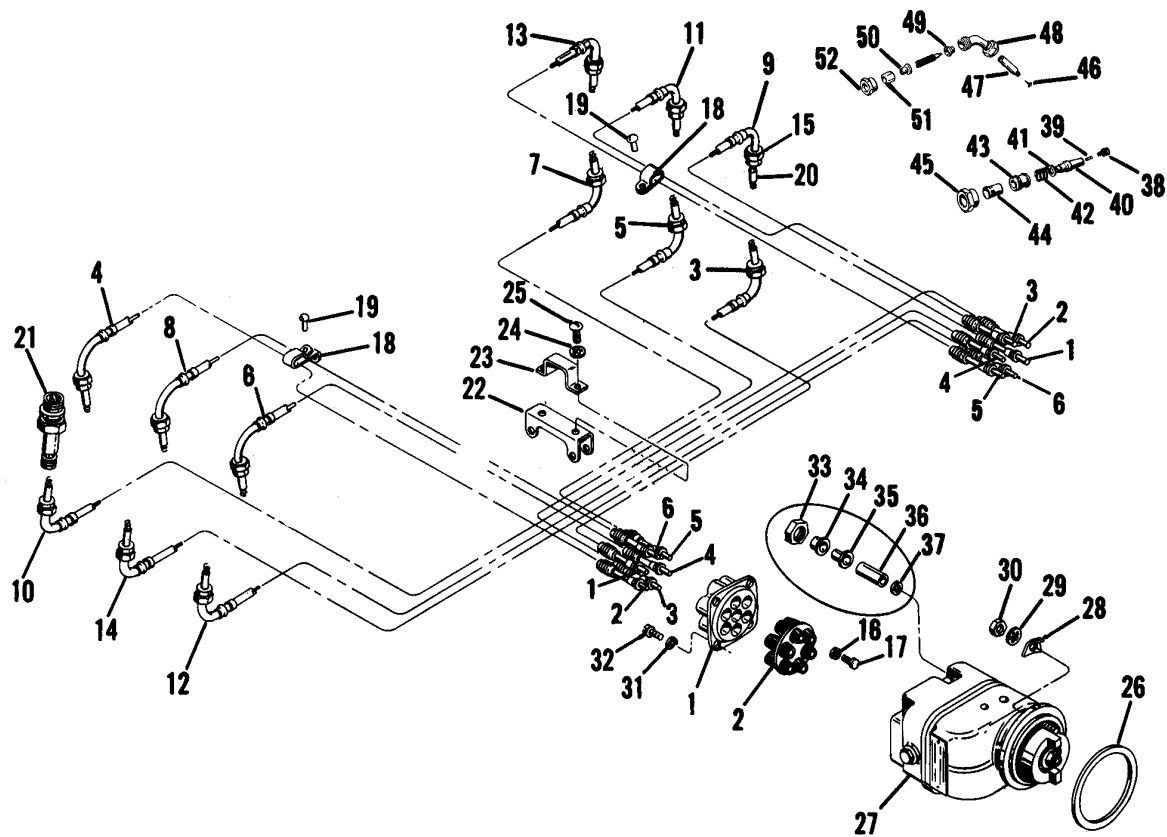

FIGURE 5-11. EXPLODED VIEW OF IGNITION SYSTEM.
5-38. IGNITION CABLES. Normally, all ignition cable assemblies or harness assemblies should be replaced at each overhaul. If the high tension outlet plates are in good condition, new cable assemblies and grommets may be installed on them and the cable ends secured to the grommet of each harness with a brass washer and a cable piercing screw, installed as in the original assembly. If only the cable assemblies and grommets are to be replaced, leave the cable clamping bracket on the original cables of each harness, and detach all cables from the high tension outlet plate by removing the cable piercing screws from their ends in the plate grommet. When the coupling nuts are unscrewed the cables may be withdrawn and the grommet removed from the plate. Observe the "1" mark on the exterior side of each outlet plate adjacent to the No.1 cable outlet hole. Refer to Figure 5-11 and observe that the numerals appearing at magneto ends of the high tension cables correspond to the consecutive order of outlet plate cable holes, while the
relative positions of spark plug elbows indicate the installed positions of the cables. Install cable assemblies (3 through 14, Figure 5-11) in the indicated positions in the two outlet plate and grommet assemblies (1 and 2), starting with the proper No.1 cable assembly in the marked hole of each plate, and proceeding in consecutive order around the plates. As each cable end is inserted, screw in the cable coupling nut (33), and tighten it; then place one of the brass washers (16) and a cable piercing screw (17) at the grommet hole, and turn the screw in firmly but not enough to cut the wire strands. When all cables have been attached to the two outlet plates, locate a clamping bracket (18) on the proper cables of each harness in the same position as on the original cables, and install a rivet (19) to secure it. Parts indexed 21 through 32 will be installed at final assembly. This group should be collected and ready for installation. Parts indexed 33 through 37 are installed on the aircraft ignition switch wires. If replacement of spark plug ends is necessary, proceed with disassembly as indicated I (Items 38 through 45) for Slick Harness, and (Items 46 through 52) for Bendix Harness.